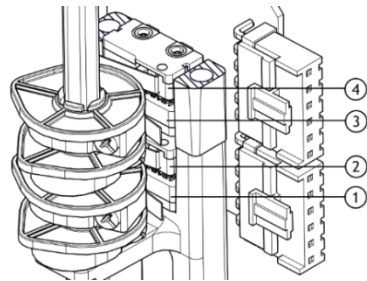
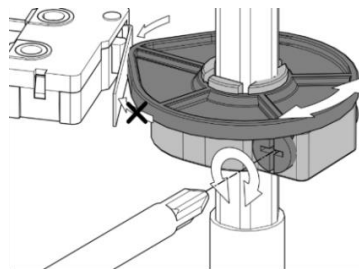

Figure 1 Switches
Figure 2 Setting a cam
1. Turn the setting screw of the blue cam corresponding to the clockwise travel limit switch (1 in **Figure 1**) with a screwdriver (see **Figure 2**).
Make sure that the cam operates the lever in the right direction (as shown by the arrow in **Figure 2**), otherwise the switch could be damaged.
5. Turn the setting screw of the gray cam corresponding to the counterclockwise travel limit switch (2 in **Figure 1**) with a screwdriver.
2. Set the blue cam corresponding to the clockwise signaling switch (3 in **Figure 1**).
4. Set the Gray cam corresponding to the counterclockwise signaling switch (4 in **Figure 1**).